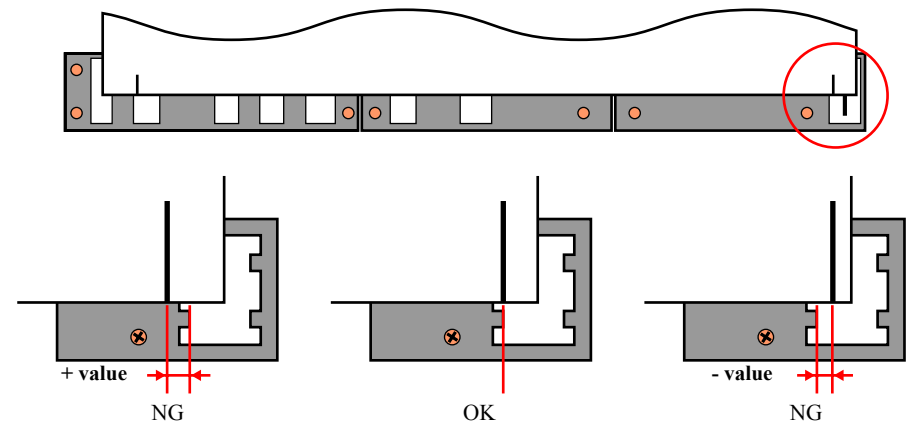

Figure 5-54. Adjustment Pattern
4. Check if the line printed on the right side of the paper (when viewed from the front of the printer) aligns with the edge of the platen tabs holding down the Ink Pad as shown in Figure 5-54. If it does, click the [Next] button to proceed to the next "Check Procedure". If the line is not in proper alignment, measure the deviation (the gap shown by red arrows in Figure 5-54, and enter the measured value into the edit box.